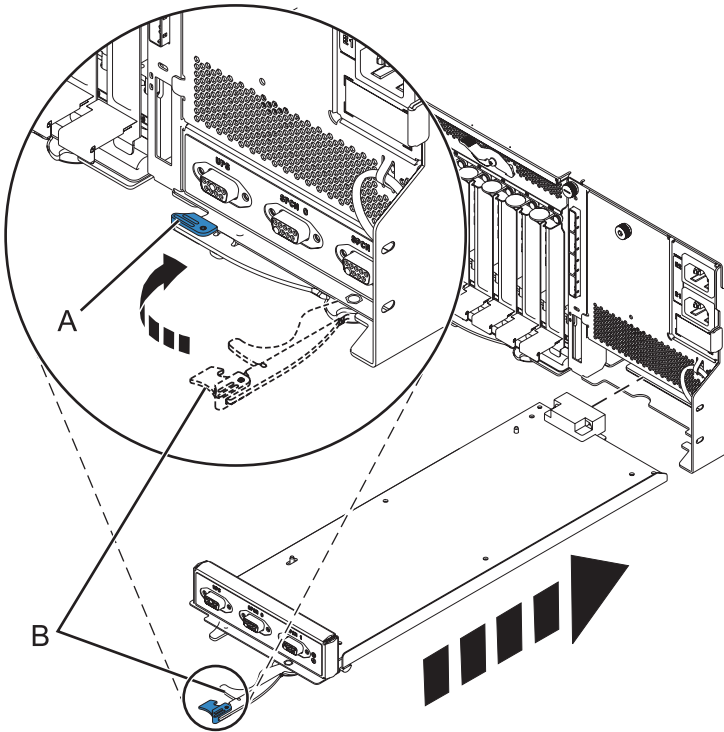

Figure 90. Replacing the enclosure management controller
7. Carefully slide the enclosure management controller into the system and close the latch (A) as shown in Figure 90.